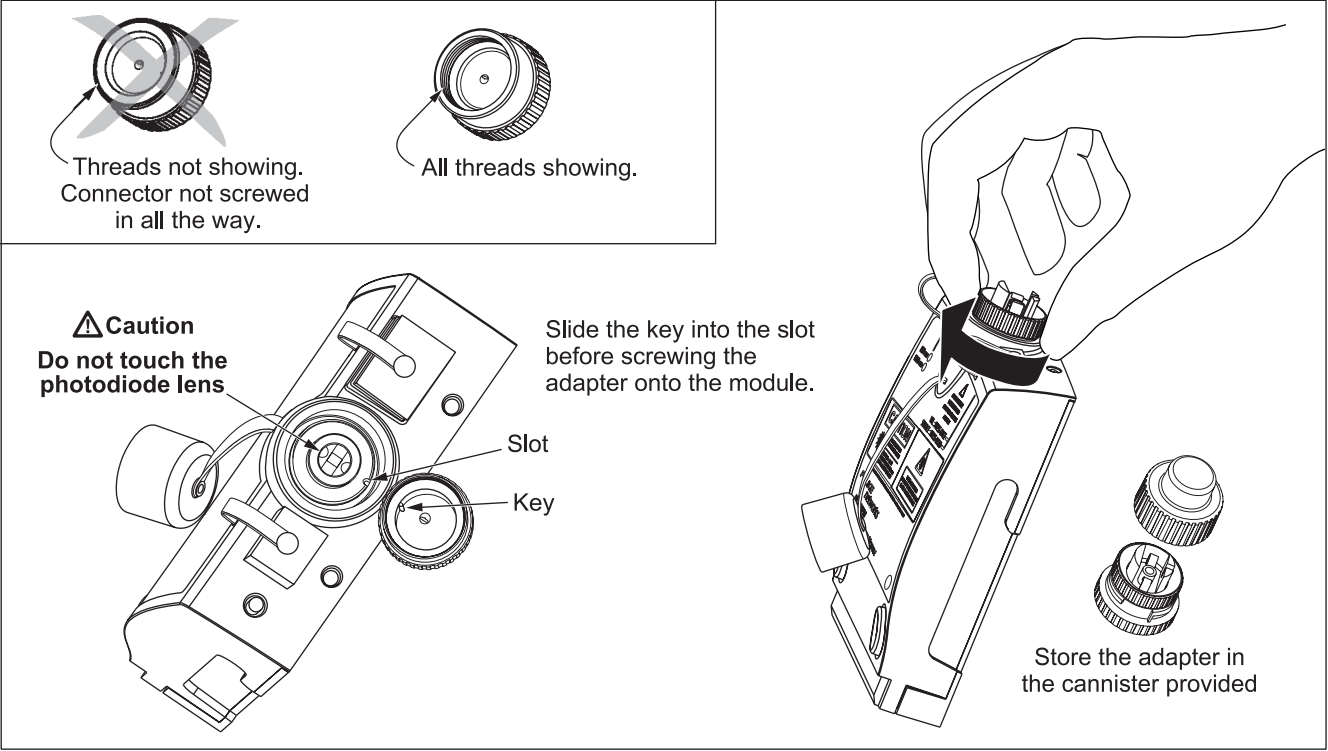

Figure 4. Installing the Connector Adapter
- **Do not touch the photodiode lens (see Figure 4).**
- ① Button for activating the visual fault locator (②) and output port (④). See “Using the Visual Fault Locator” on page 44 and “Autotest in Far End Source Mode” on page 36.
- ② Universal fiber connector (with dust cap) for the visual fault locator output. The connector accepts 2.5 mm ferrules. The LED below the connector indicates the locator’s mode (continuous or blinking).
- ③ Input connector with dust cap. Receives optical signals for loss, length, and power measurements. You can change the connector adapter to match the connectors on the fiber under test. See Figure 4.
- ④ SC output connector with dust cap. Transmits optical signals for loss and length measurements.
- ⑤ The LED below the connector is red when the output is transmitting the module’s shorter wavelength, and green for the longer wavelength.
- ⑥ Laser safety label (shown at right).
- Do not touch the photodiode lens (see Figure 4).
To install a connector adapter, refer to Figure 4 and do the following:
- 1 Remove the connector adapter to expose the photodiode lens (see Figure 4).